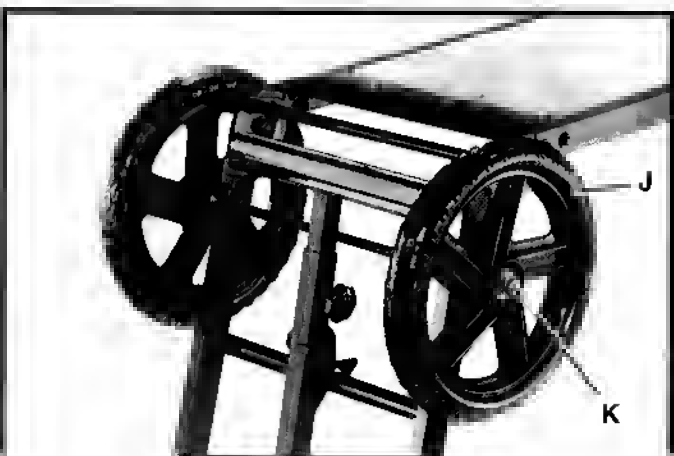

Fig. 19
4. Place remaining wheel-(J) Fig. 19, on axla and care-fully hammer axle cap (K) onto end of axle. **NOTE:** Opposite end of axle must ba supported while axle cap (K) is assembled to end of axle.